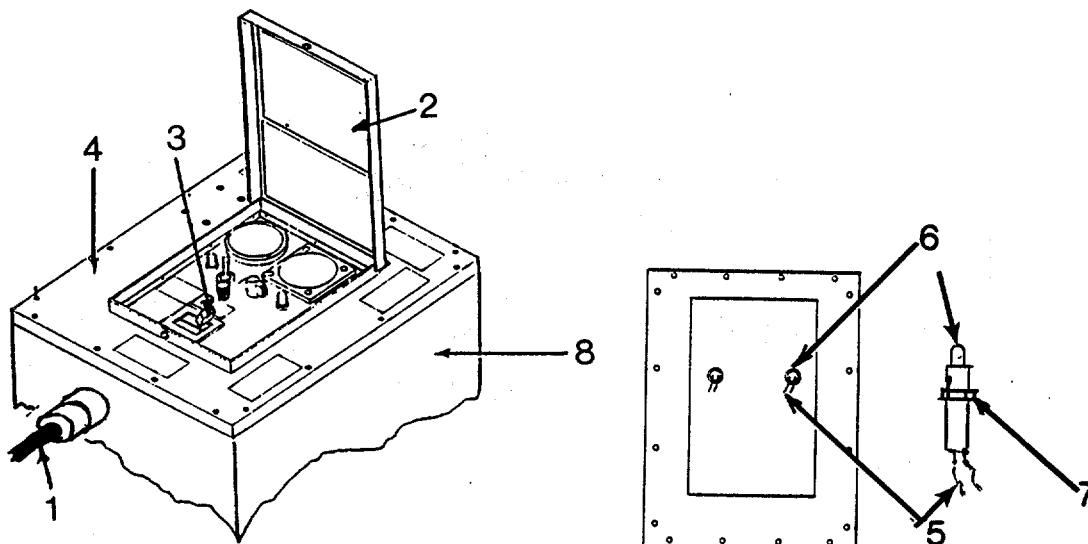

Figure 4-24. Replacing Phase Light, Power Distribution Box Assembly
f. Repair by replacing Phase Light, Power Distribution Box Assembly. (See figure 4-24.) This procedure applies to both the correct and incorrect phase lights.
- (1) Request generator operator shut down generator and disconnect main power cable (1).
- (2) Raise control panel cover (2) and request Module C supervisor place circuit breaker (3) in OFF position.
- (3) Remove control panel assembly (4). (See a. above).
- (4) Tag and unsolder terminal wires (5) from phase light (6).
- (5) Remove nut (7) and phase light (6).
- (6) Place replacement phase light (6) in position and secure with nut (7).
- (7) Solder terminal wires (5) to phase light (6) and remove tags.
- (8) Secure control panel assembly (4) to power distribution box assembly (8). (See a. above.)
- (9) Request generator operator connect main power cable (1), and turn on generator. Test operation, and request Module C supervisor place circuit breaker (3) in ON position.